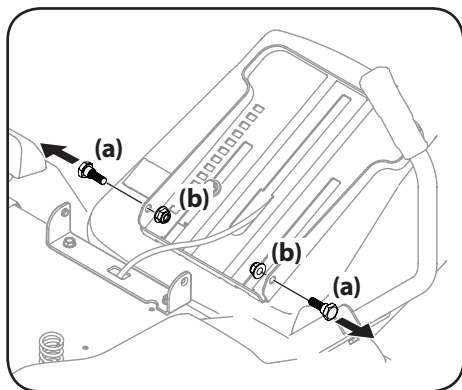

Figure 2-4
2. Remove the two shoulder screws (a) and flange lock nuts (b) in the seat pan as shown in Figure 2-4.